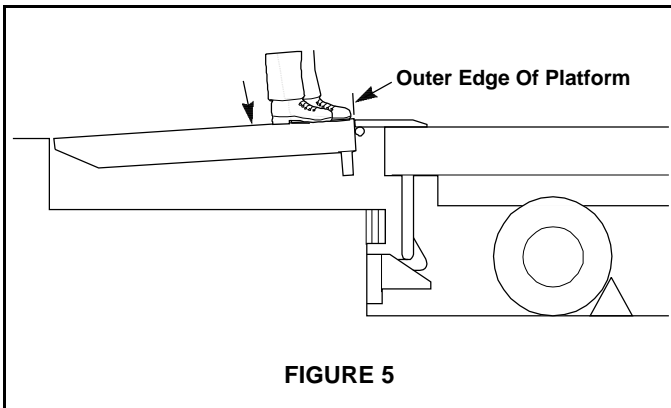

FIGURE 5
2. Walk on the platform to the outer edge (do not walk on lip). The platform will lower until the lip contacts the truck bed. Be sure the lip is in full contact with the truck bed. Refer to Figure 5.